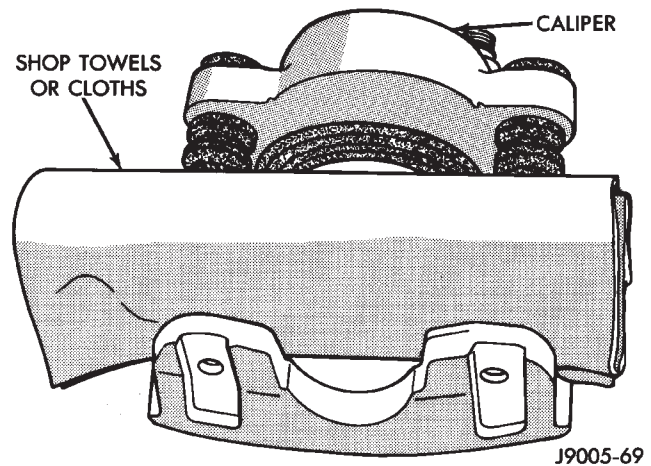

Fig. 46 Padding Caliper Interior
(1) Remove brake shoes from caliper.
(2) Drain brake fluid out of caliper.
(3) Take a piece of wood and pad it with one-inch thickness of shop towels. Place this piece in the out-board shoe side of the caliper in front of the piston. This will cushion and protect caliper piston during removal (Fig. 46).